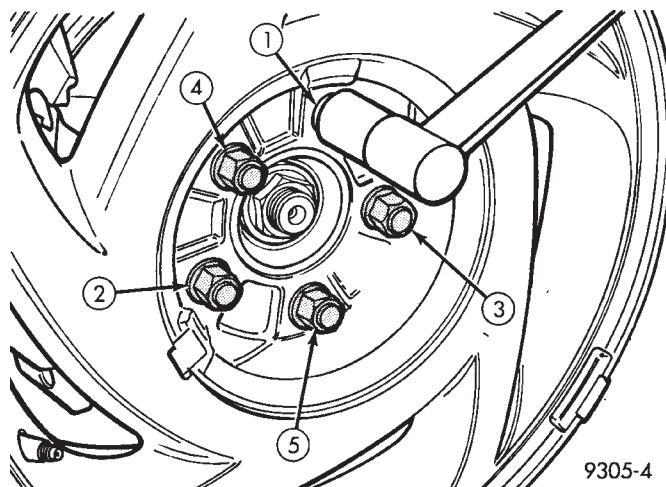

Fig. 22 Tightening Wheel Nuts
- (3) Install the wheel and tire assembly.
- (4) Tighten the wheel mounting stud nuts in proper sequence (Fig. 22) until all nuts are torqued to half specification. Then repeat the tightening sequence to the full specified torque of 129 N•m (95 ft. lbs.).